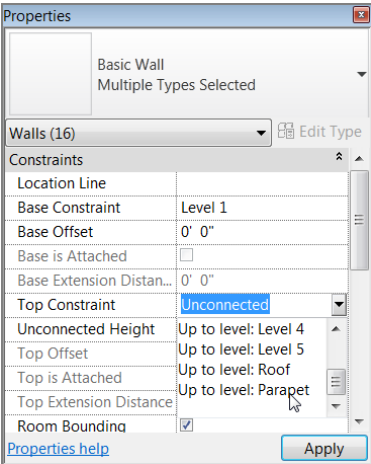
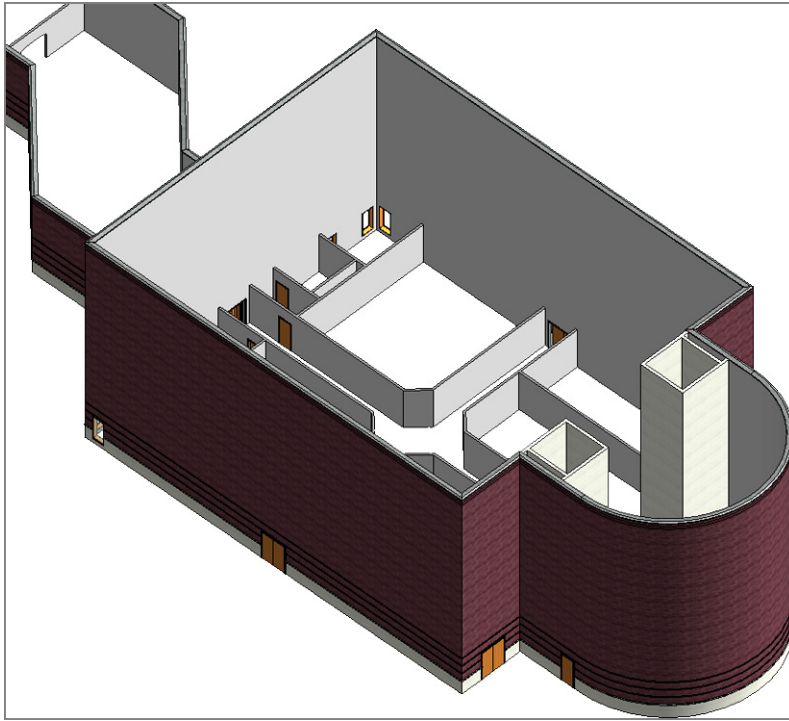

FIGURE 3.21: Setting the top constraint to Up To Level: Parapet
FIGURE 3.22: The walls on the east side of the building are now constrained to the Parapet level.
3. In the Properties dialog, under the Constraints category, change Top Constraint to Up To Level: Parapet, as shown in Figure 3.21. Click Apply or move your cursor into the drawing window to set the property change. The walls should now extend to the Parapet level, as shown in Figure 3.22.